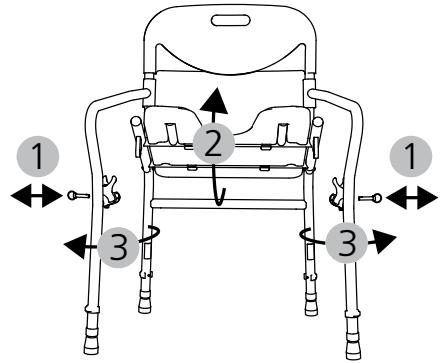

Abb. 10
1. Pull out the locking bolt sideways (Fig. 10, 1.).
2. The seat can now be folded upwards (Fig. 10, 2). Swing the side elements outwards slightly (Fig. 10, 3) so that the chair can still stand on its own. The seat can now be slowly folded down.
3. Finally, swing the side elements down onto the back of the chair (Fig. 10, 3).
3. Both locking bolts (right/left) are inserted from the side until they click into place (Fig. 10, 1).